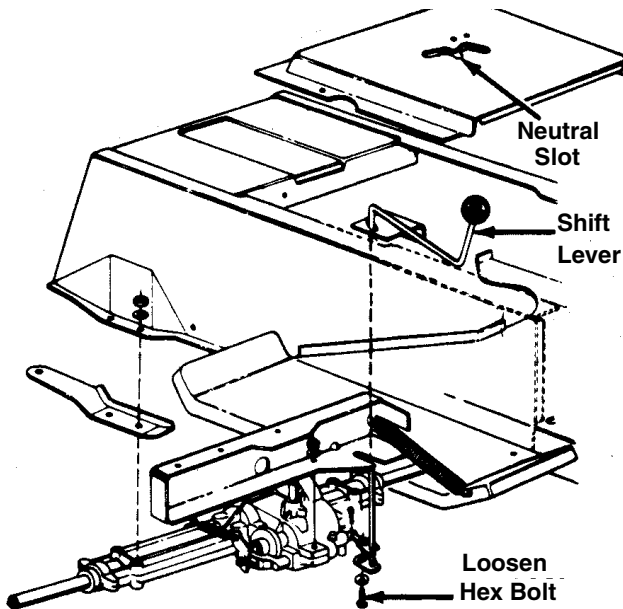

Figure 16
2. Loosen the bolt which secures the shift lever assembly to the shift lever link. See Figure 16.
3. Place the shift lever in the neutral slot. See Figure 16.